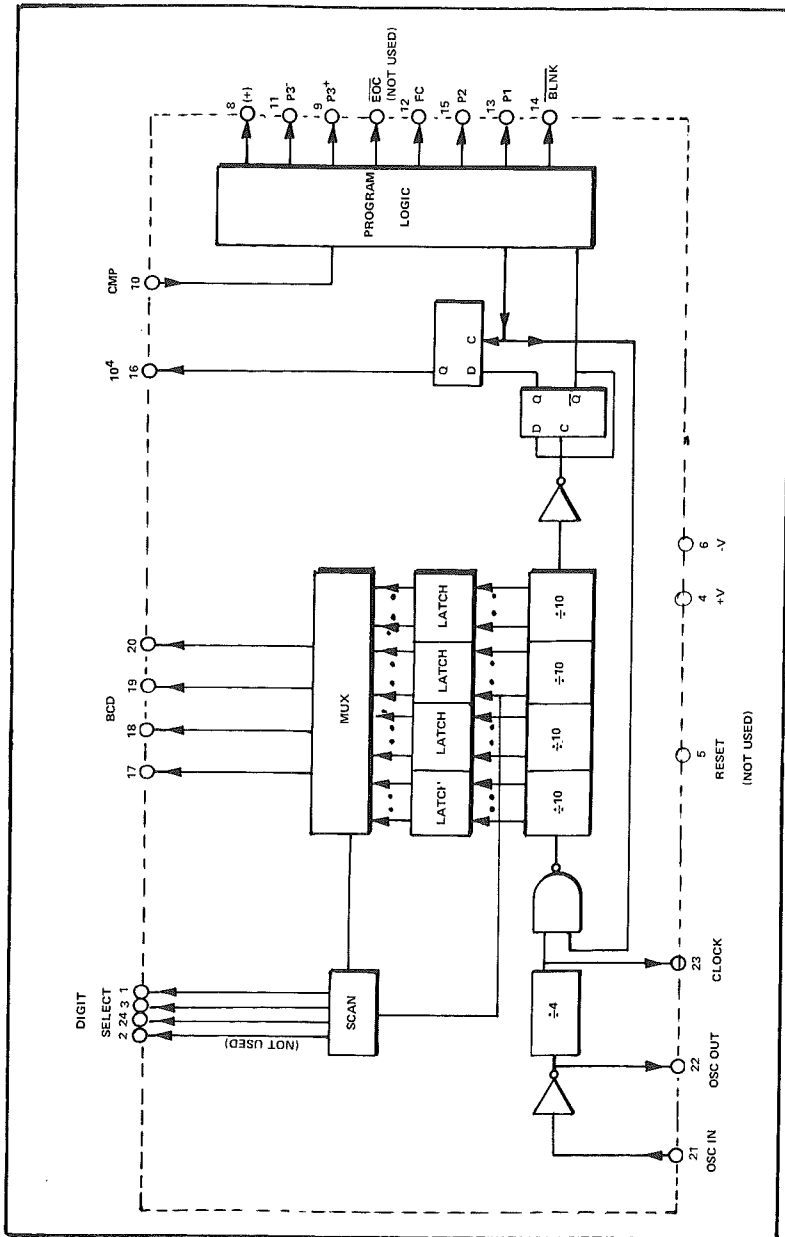
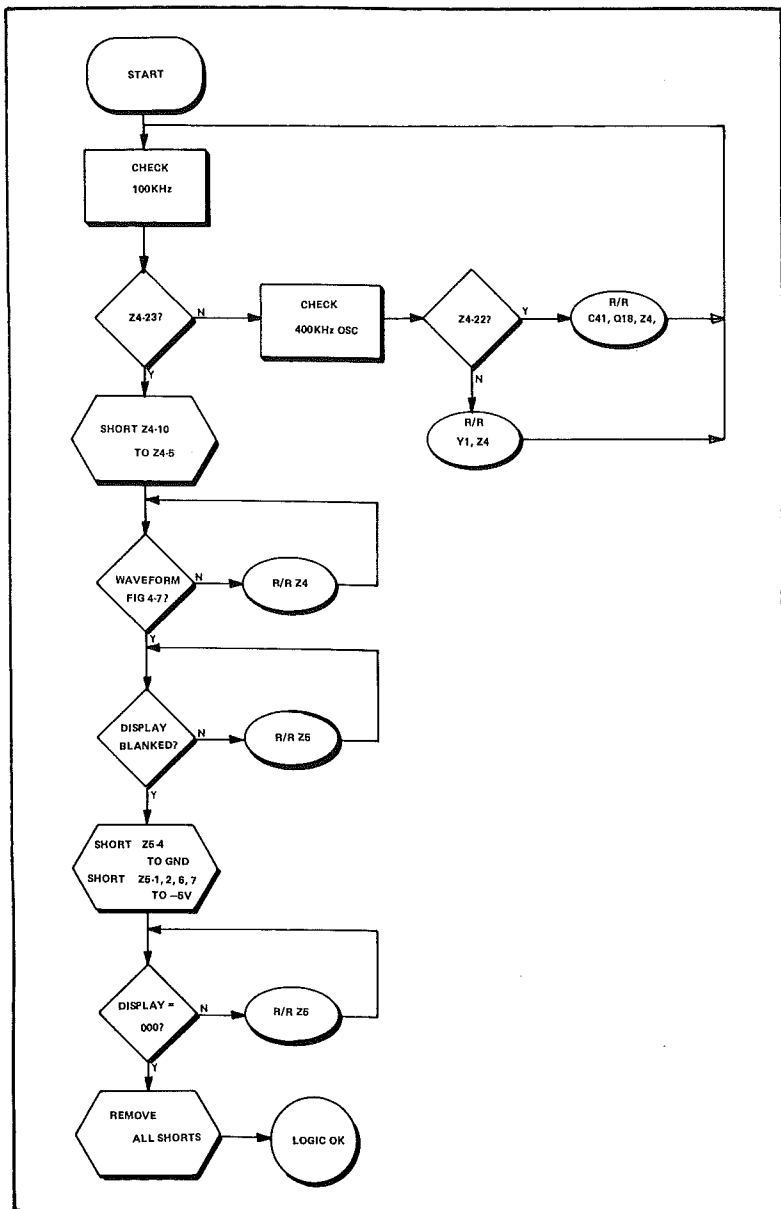

Fig. 3-6. Digital Logic Block Diagram
Fig. 4-6. Test TS4-3. Digital Logic Trouble Shooting
a. The digital logic programmer circuitry is contained entirely on one CMOS solid state component, Z4. It contains (Fig. 3-6):
All the digital logic functions are essentially implemented in two CMOS chips, Z4 and Z5. The separate and sometimes independent functions performed by these LSI circuits are checked as shown in Figure 4-6. Proceed as shown below. (A simplified block diagram of Z-4 is shown in Figure 3-6.)